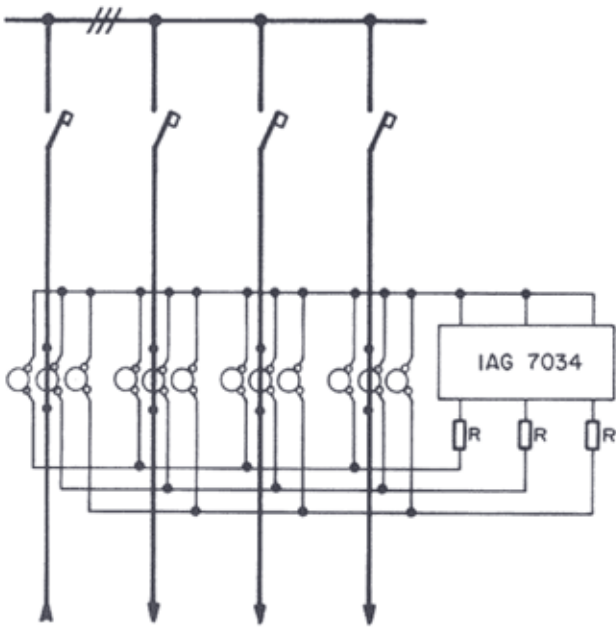

Figure 1
- *Instantaneous longitudinal differential protection of bus-bars and eventually alternators, synchronous or induction machines (IAG 7034 - see fig. 1 and 4).*